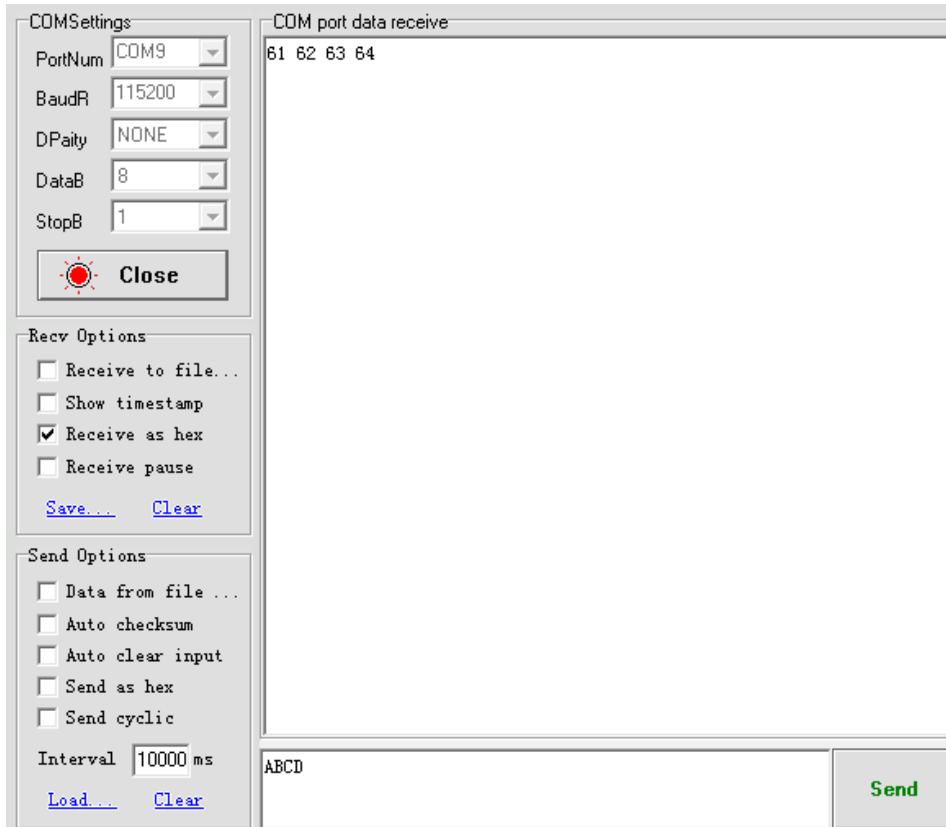

Figure 2-3 Module Data Sending and Receiving
4. The UDP Client sends a string to the UDP Server. In other words, send data from the serial port tool to the TCP/UDP Test tool (Figure 2-3).